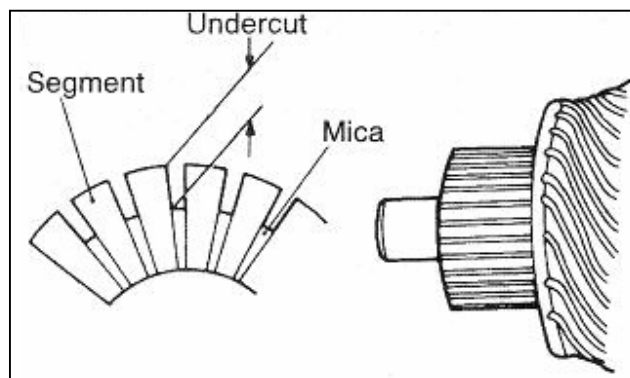

Fig. 9-17
③ Check the undercut depth between segments. (see Fig.9-17) .